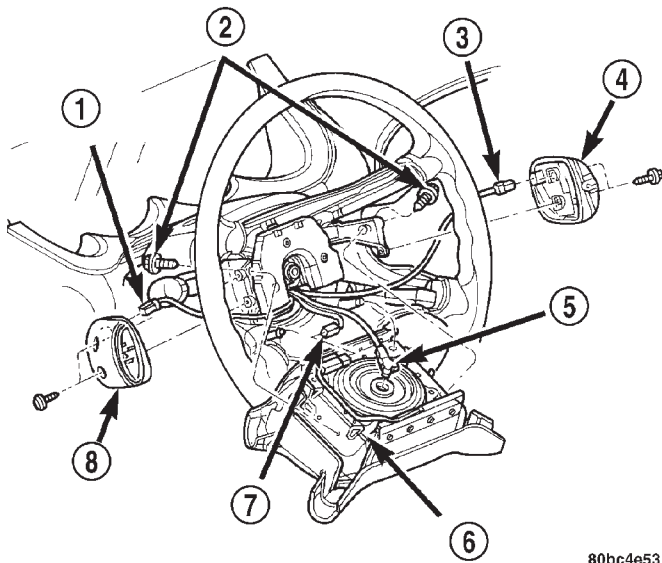

Fig. 6 Steering Wheel Components
(1) Disconnect the negative (-) cable from the battery and isolate the cable.
(2) Before beginning removal of the steering column, be sure the front wheels of vehicle are in the STRAIGHT-AHEAD position.
(3) Remove the screw securing the left end of the top cover to the instrument panel. It is located just above the left instrument panel end cap.
(4) Starting on the driver's end, push upward on the instrument panel top cover, disengaging its retainer clips along the face of the instrument panel. Disengage just enough clips to allow access to the upper ends of the instrument cluster bezel.
(5) Disengage the clips along the outer edge of the instrument cluster bezel and remove the bezel from the vehicle.
(6) Remove the two screws along the bottom of the steering column cover that mounts below the steering column on the instrument panel. Disengage the clips on the upper end of the steering column cover and remove the cover by pulling it straight away from the instrument panel.
(7) If the vehicle is equipped with speed control, remove the speed control switches from the steering wheel (Fig. 6).
(9) Remove the two mounting screws, one on each side of steering wheel, attaching the airbag module to the steering wheel (Fig. 6).
(10) Lay the airbag module back away from the center of the steering wheel (Fig. 6). Disconnect the clockspring and horn switch electrical connectors from the back of the airbag module. Remove the airbag module from the steering wheel.
(11) Holding the steering wheel firmly in place, remove the steering wheel retaining nut from the steering column shaft in the center of the steering wheel. If equipped, remove the damper weight from the steering wheel.